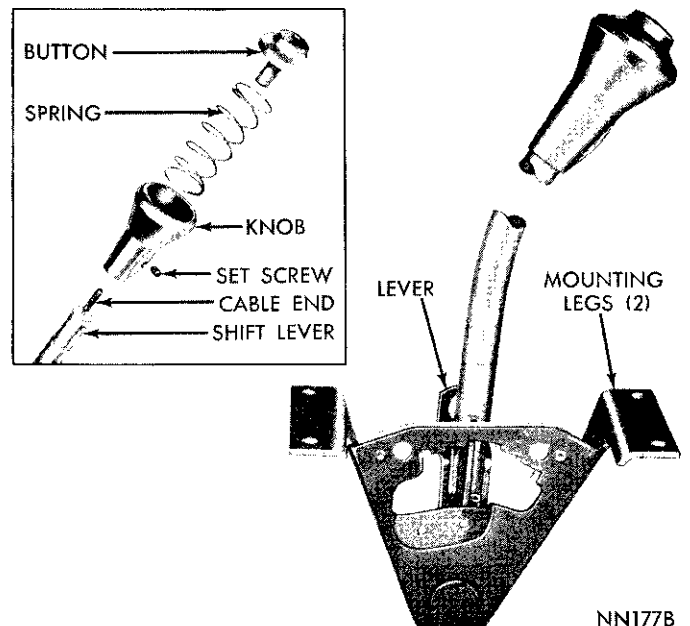

Fig. 6—Console Gearshift Unit
(5) Check adjustment as follows:
- (6) If console removal is required, disconnect battery ground cable. Remove set screw and shift knob or handle. Proceed as outlined in Body Section 23.
- (7) After console is in place, install shift knob as follows: with gearship lever in NEUTRAL, thread button, spring and knob assembly on the cable end until dimension from top of button to top of knob is 13/32" (Fig. 6). Secure knob with set screw.
- (8) Connect battery ground cable.